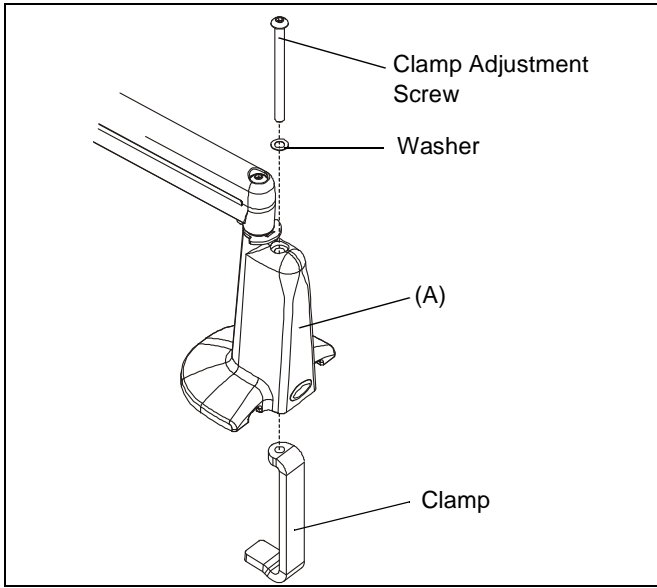

Figure 4
2. Using 3/16" hex key (H), remove clamp adjustment screw, washer, and clamp (See Figure 4). Retain clamp adjustment screw and washer for later use.